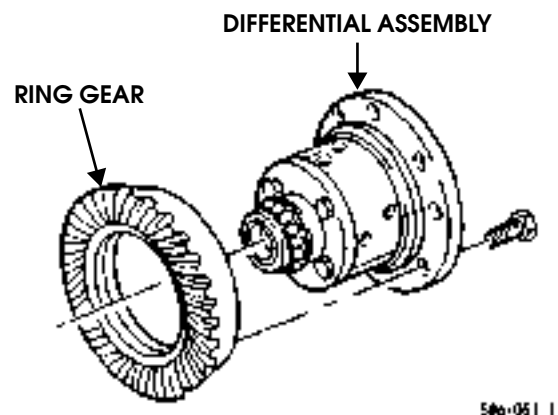

Figure 9-65: Ring Gear Removal
13. Remove eight bolts and ring gear from differential assembly (Figure 9-65).